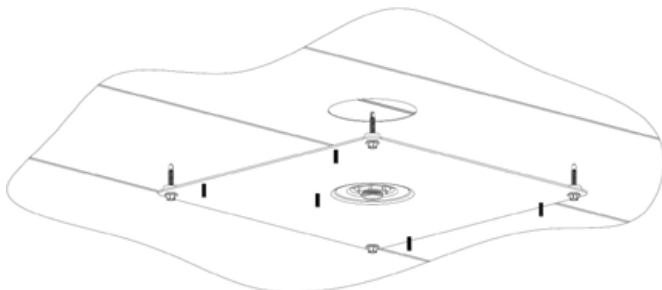

Figure 2
1. Using the supplied deck screws, attach the backplate to the canopy, as in Fig.2.